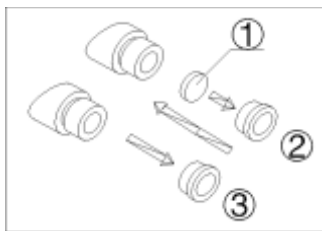

Fig.5
- 1) Turn and remove the mounting ring ② from the eyepiece.(Fig.5)
- 2) Clean the eyepiece micrometer ① and mount it to the mounting ring with the inscription side downward
- 3) Gently twist the mounting ring with the eyepiece micrometer into the eyepiece till tightening ② securely.
- 4) To remove the eyepiece micrometer, take down the mounting ring ③ by twisting and take out of the micrometer, and then wrap it.